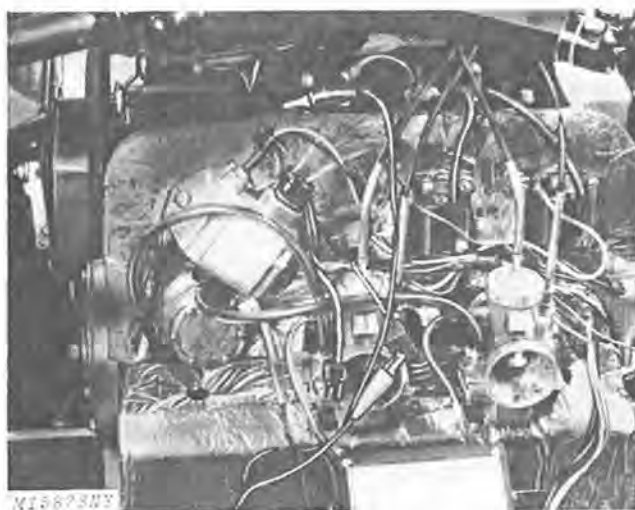

Fig. 3-Testing For An Open Circuit
4. Disconnect ohmmeter leads from wiring harness plugs. Connect one ohmmeter lead to the engine block, Fig. 3. Use the other lead to check the